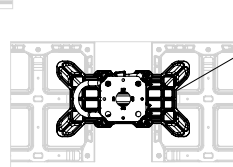

Fig. D1.03a
- above 2 DP panels (**10**), for connecting panel edges. (Fig. D1.03a)